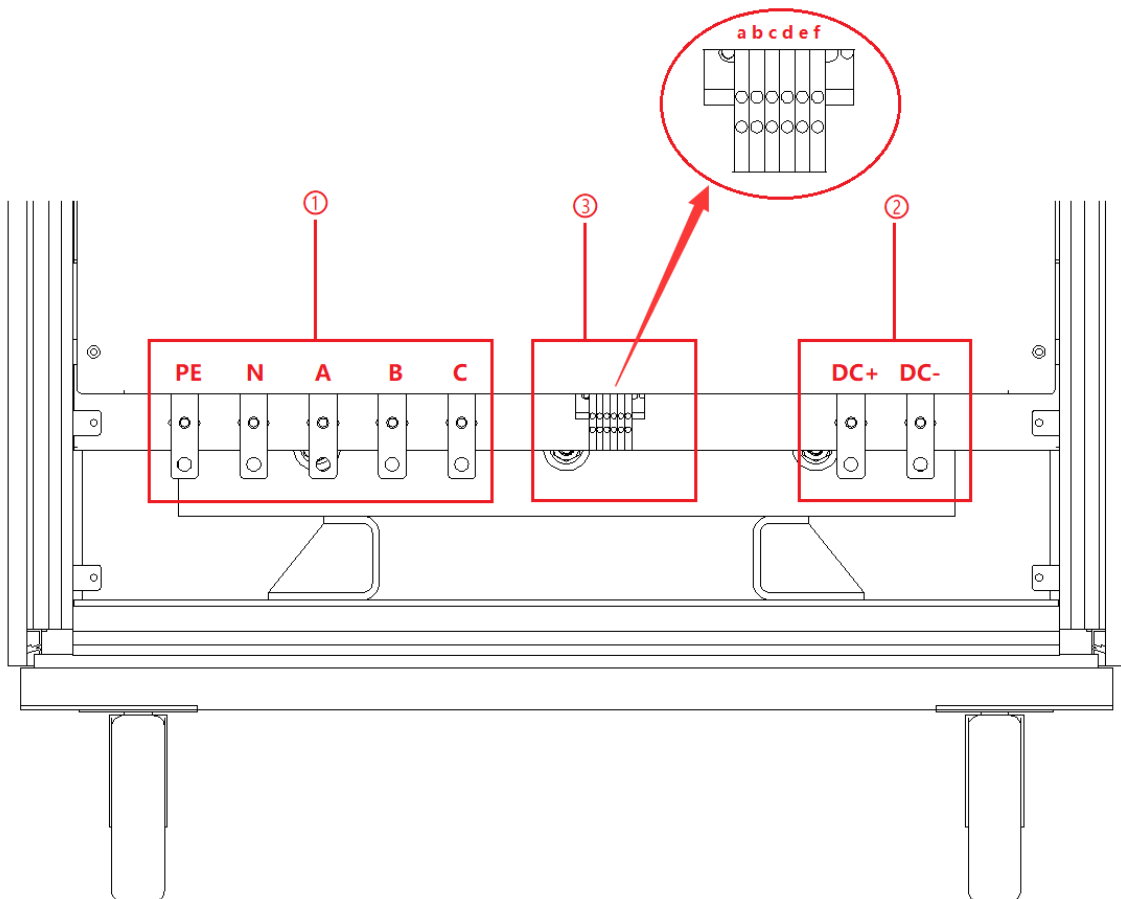
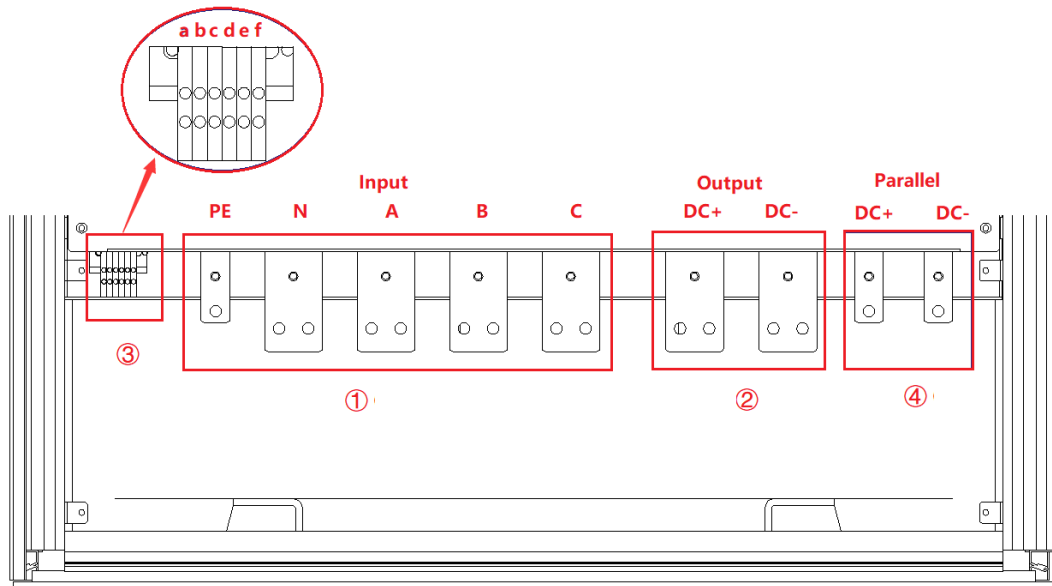

Figure 1-6-1 Power input / output connection layers (Single cabinet)
Figure 1-6-2 Power input / output connection layers (Cabinets in parallel)
④	Parallel copper bar	Used for parallel connection of equipment. From left to right are DC +, DC-.
When a single power supply is used, the power input/output wiring layer is shown as Figure 1-6-1. When the power supplies are used in parallel, the power input/output wiring layer is shown in Figure 1-6-2. Two smaller copper bars (Figure 1-6-2④) are used for parallel wiring between cabinets.
When the output voltage of the power supply is  $\geq 800V$ , the position of the terminal strip (Figure 1-6③) may change due to the clearance and creepage distance, as shown in Figure 1-6-2.